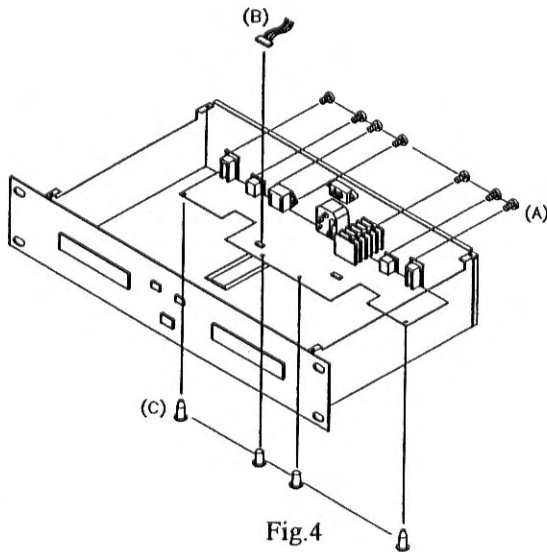

Fig.4
4. REMOVAL OF MAIN PCB (Fig.4)